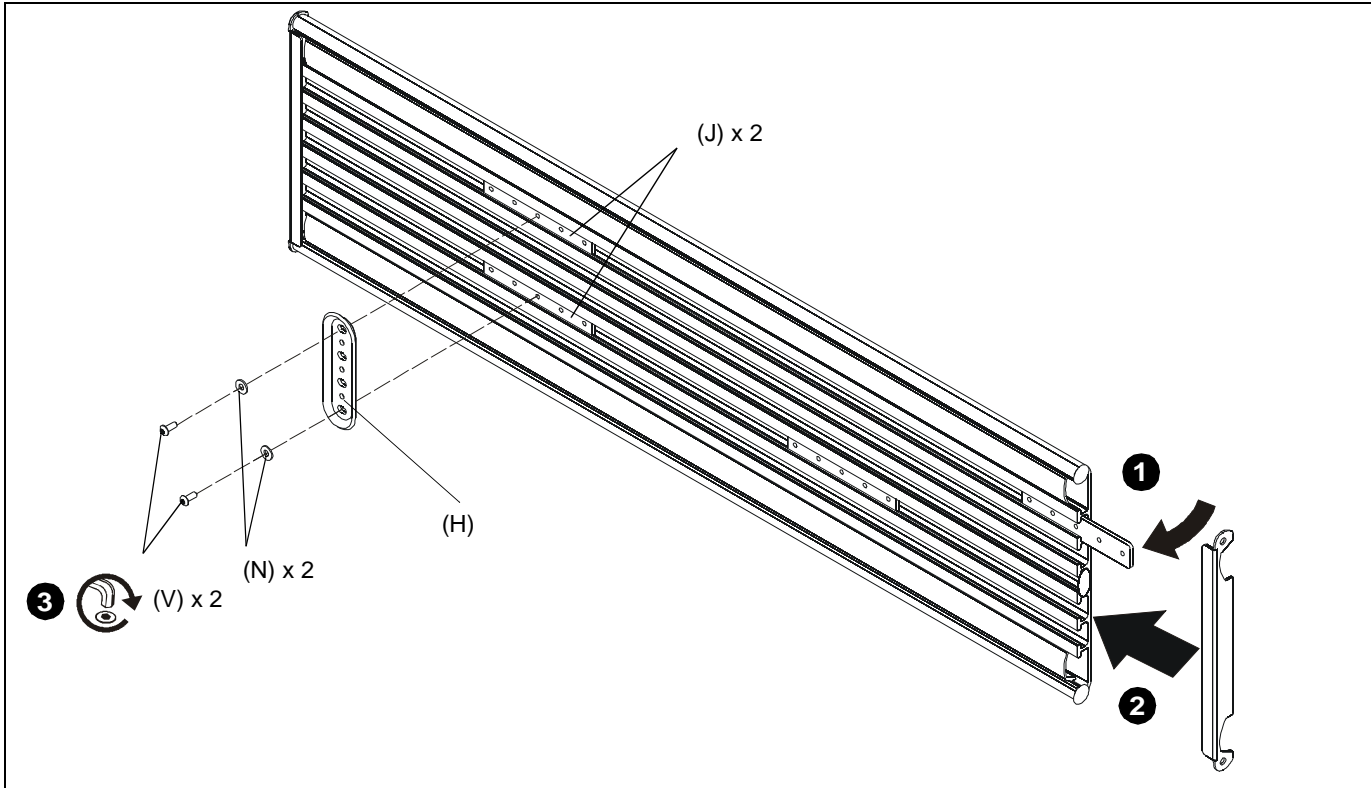

Figure 35
1. Remove side cover to slide locking plate brackets (J) into wall track accessory (A) at the desired mounting location. (See Figure 35)
2. Reinstall side cover to wall track accessory after locking plate brackets have been inserted. (See Figure 35)
3. Use 1/8" hex key (BB) to install #10 button head cap screws (V) through #10 washers (N) and wall plate (H) into center holes of locking plate brackets (J). (See Figure 35)
4. Ensure wall plate (H) is vertical, then tighten screws (V). (See Figure 35)